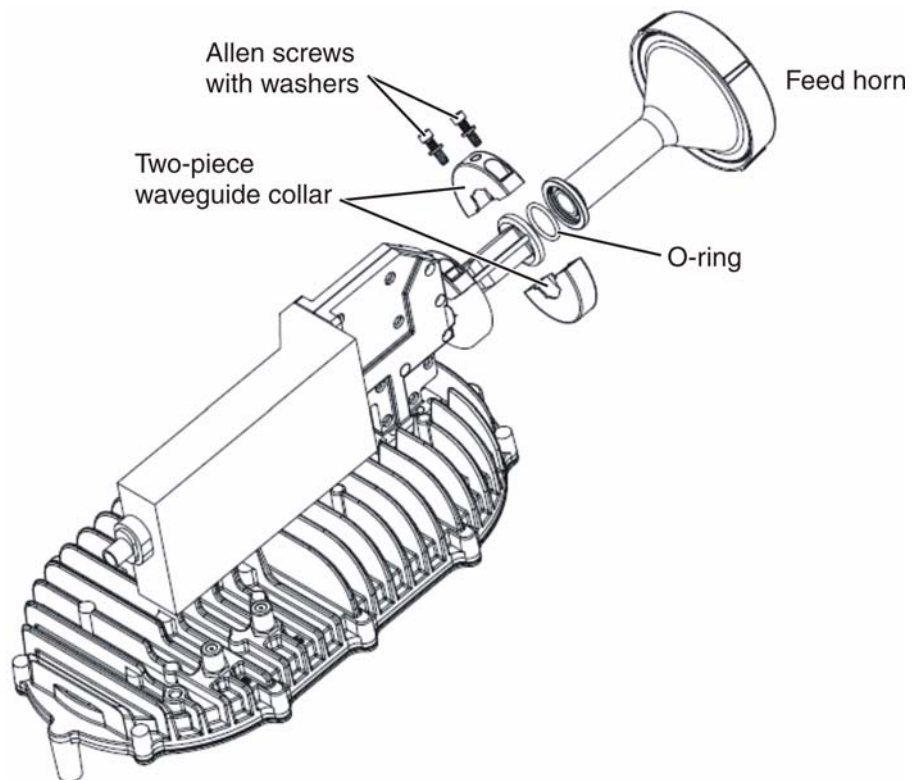

Figure 22: Attaching the feed horn
3. Position the feed horn against the waveguide as shown in Figure 22